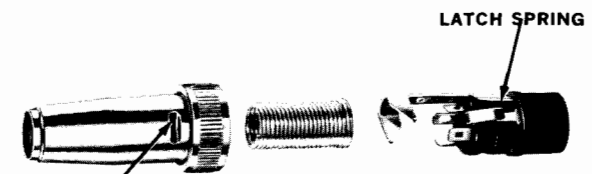

Fig. 2
8. Slide housing along cable toward insert, aligning latch spring with latch detent opening (Fig. 2). (Cable clamp forces protector spring into position through rear of housing.)